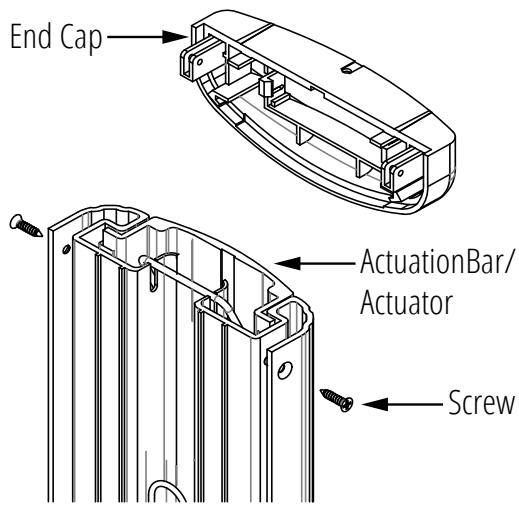

Figure 4.1 End Cap Removal
1. Unpack the pre-assembled unit from the box. To mount the switch, it is required to disassemble a few components. Firstly, remove two screws holding the top End Cap in place. Once both screws are removed, take out the cap. (Figure 4.1)
2. Carefully pull out the actuator and place it aside so as to protect it from any surface damage. (See Figure 4.1)